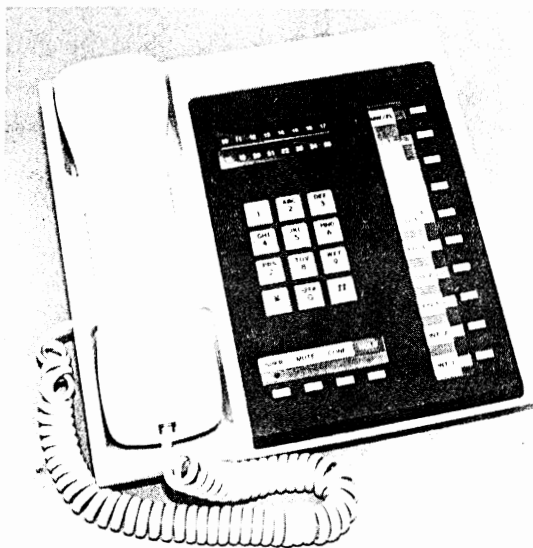

FIGURE 19
08.04 An optional Busy Lamp Field (BLF) EKT (Figure 19) provides LED indication on which stations are in use.